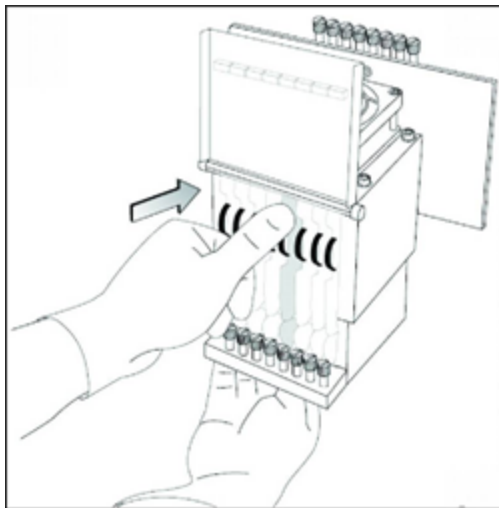

Figure 6-76 Inserting the print-head driver card into its socket
- b. Re-insert the print-head driver card into its socket (see Figure 6-76 on page 6-53).